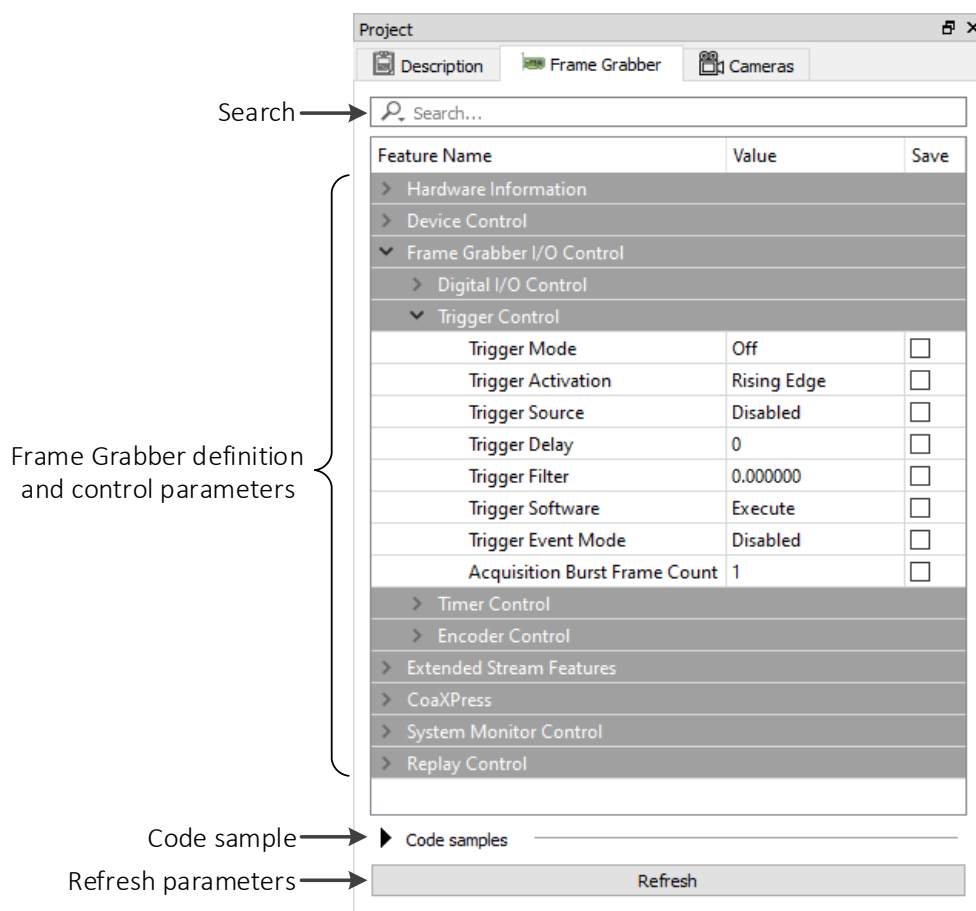

Figure 4 – Frame Grabber navigator tab
2. A Frame Grabber tab describes Frame Grabber-related information and configurations, e.g. I/O control and hardware information, controlled using GenCam interface. The Frame Grabber tab is shown in Figure 4.